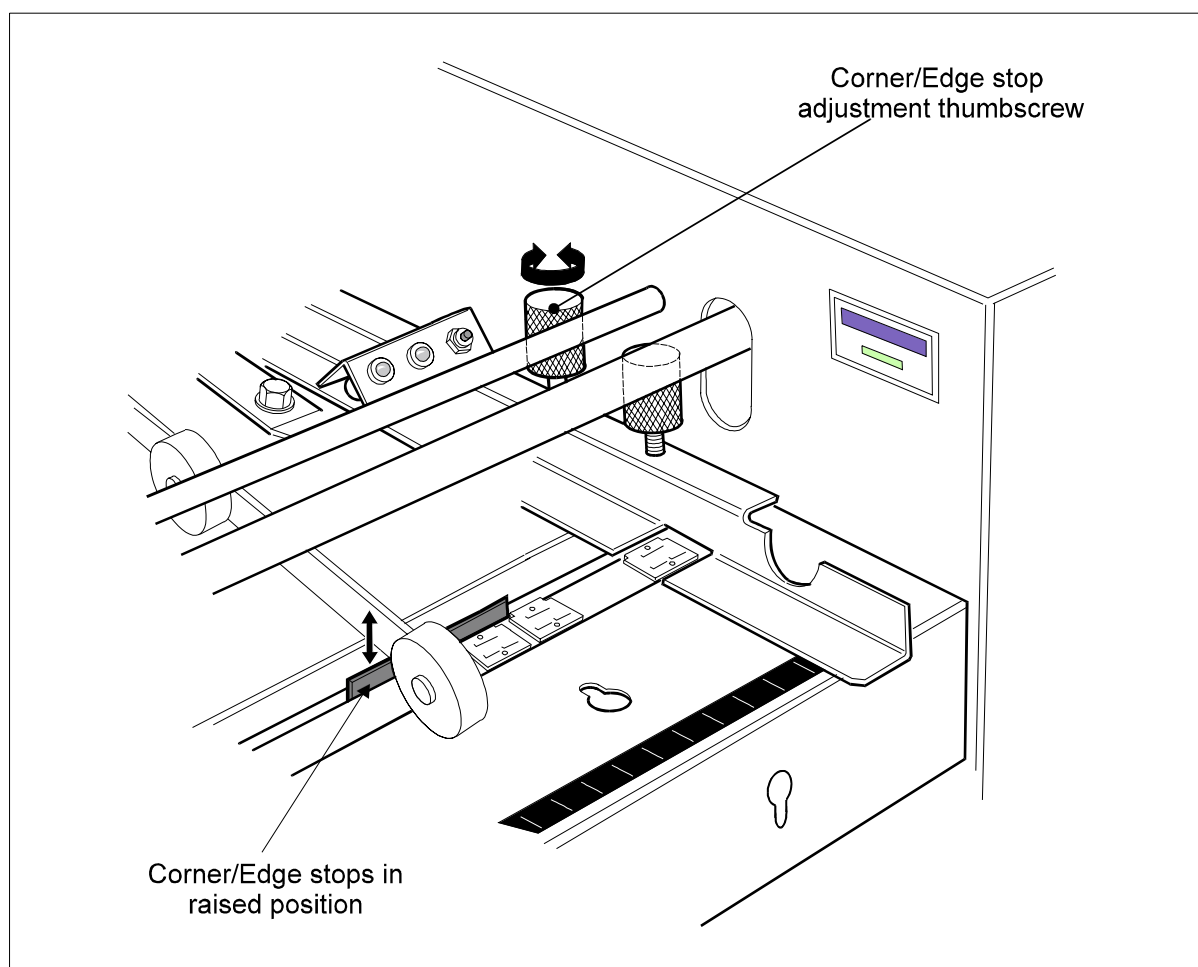

Figure 10 - Corner/Edge stops.
Refer to figure 10.
3. Turn the corner/edge stop adjust thumbscrew, located in the second paper table shown in figure 10 to the right of the right-hand paper width guide, anti-clockwise. The stop will rise just behind the Anvil bar.